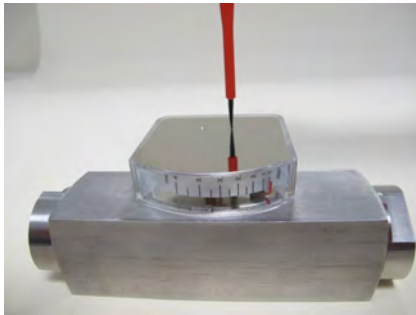

Fig. 72
27. ▶ Fasten the screws securing the display cover plate, observing the proper tightening torque (Fig. 72) ( Chapter 11.1 "Tightening torque" on page 88).